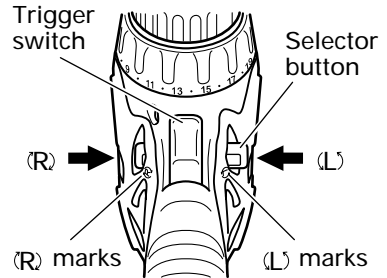

Fig. 17
The L-side of the selector button is pushed to turn the bit counterclockwise (See Fig. 17). (The (L) and (R) marks are provided on the body.)